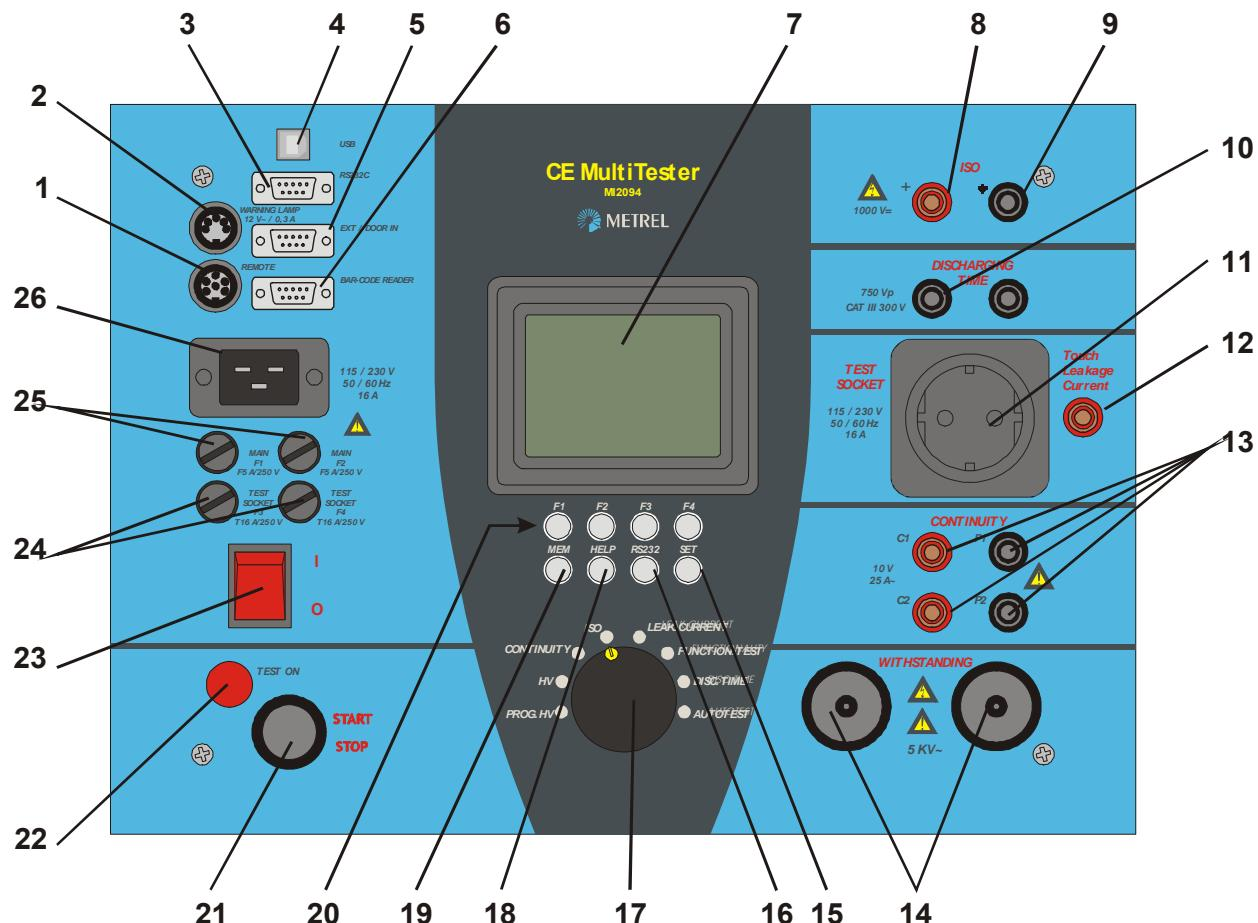

Fig.1. Front panel layout
Withstanding section 	Dangerous voltage may be present. Switch off the instrument immediately if the red warning lamp (fig. 1., pos. 22) does not light after switching on HV generator, and service the instrument. Always handle as the test leads are energized.
<p>Function test section</p> 	<p>Dangerous voltage is present on the TEST SOCKET (fig.1, pos.11) after pressing the START/STOP push button.</p>